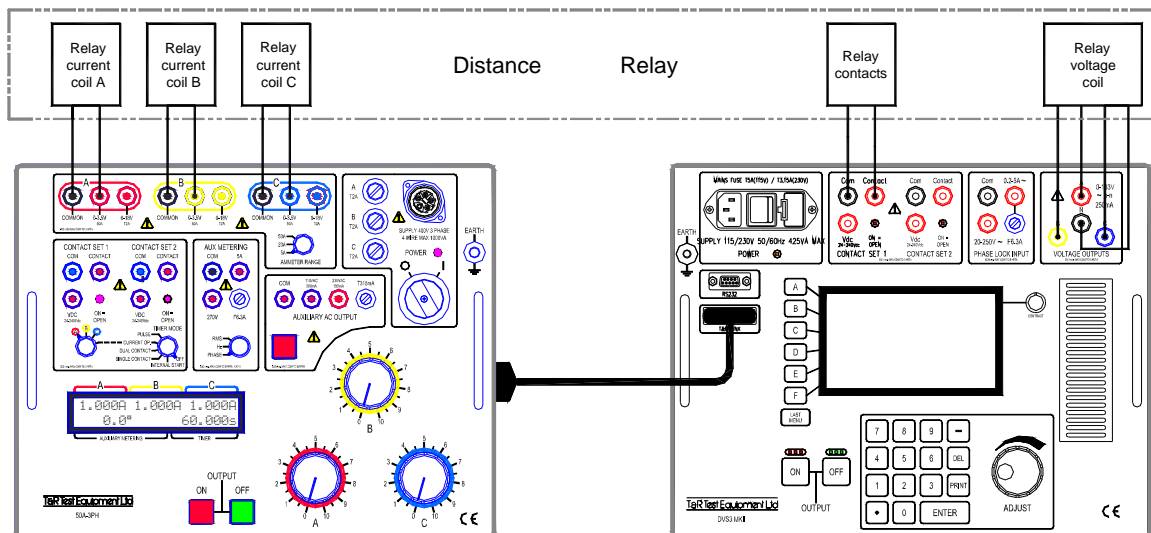

Figure 5. Connections
Figure 5 shows the connection between the 50A-3PH, DVS3 and the relay under test.
- The relay will also require an auxiliary supply (not shown in figure 5).